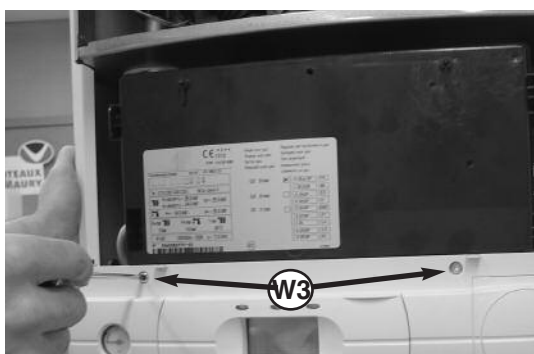

Fig. 101
4. Remove the two screws **W3** from the front control panel and lower the front control panel (see Fig. 101);